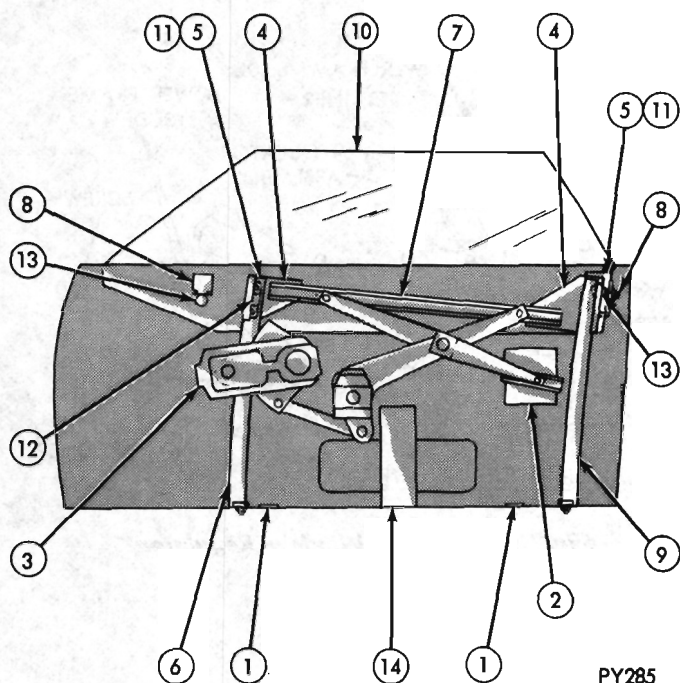

Fig. 1 - Ventless Glass Installation
- (1) Install down stops (Fig. 1).
- (2) Place pivot bracket on regulator.
- (3) Install sector assembly and arms to door.
- (4) Assemble gaskets to lift bracket stabilizer mounting plate.
- (5) Assemble spacers and stabilizer to glass.
- (6) Install front track.
- (7) Install lift bracket.
- (8) Install up-stops front and rear.
- (9) Install rear track.
- (10) Install glass and lower to bottom of door.
- (11) Install stud plate stabilizers to glass.